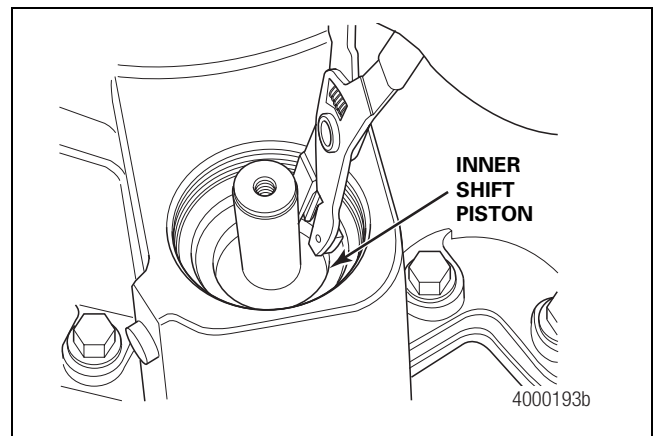

Figure 4.6
- D. Remove the inner shift piston snap ring from the shift shaft. Remove the shift piston. Figure 4.6.